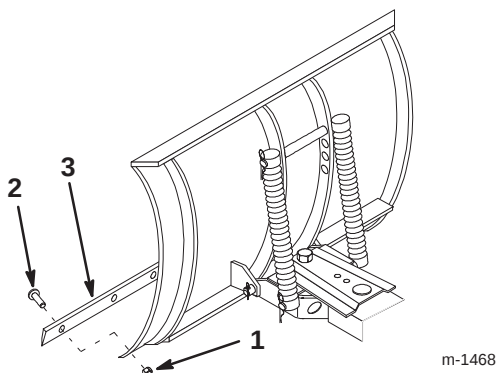

Figure 23
7. Remove the locknuts and carriage bolts that secure the scraper (Fig. 23).
8. Reverse the scraper to replace a worn edge and install it with the previously removed hardware (Fig. 23).